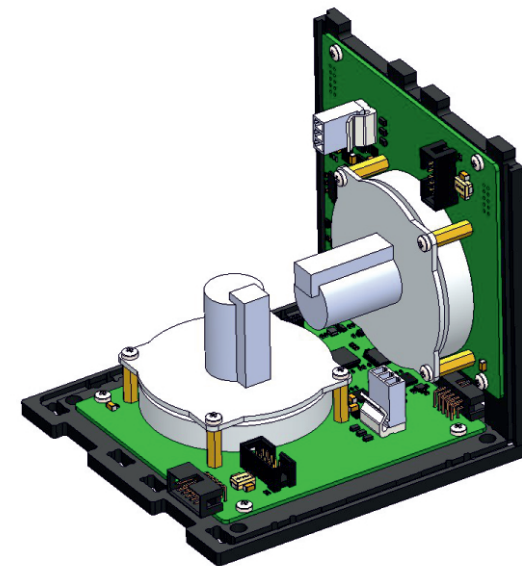

Fig. 57: Mounting the side wall on the base plate
3) Mount the side wall on the base plate. To do that, align side wall protrusions with holes in the base plate and latch them (Fig. 57):